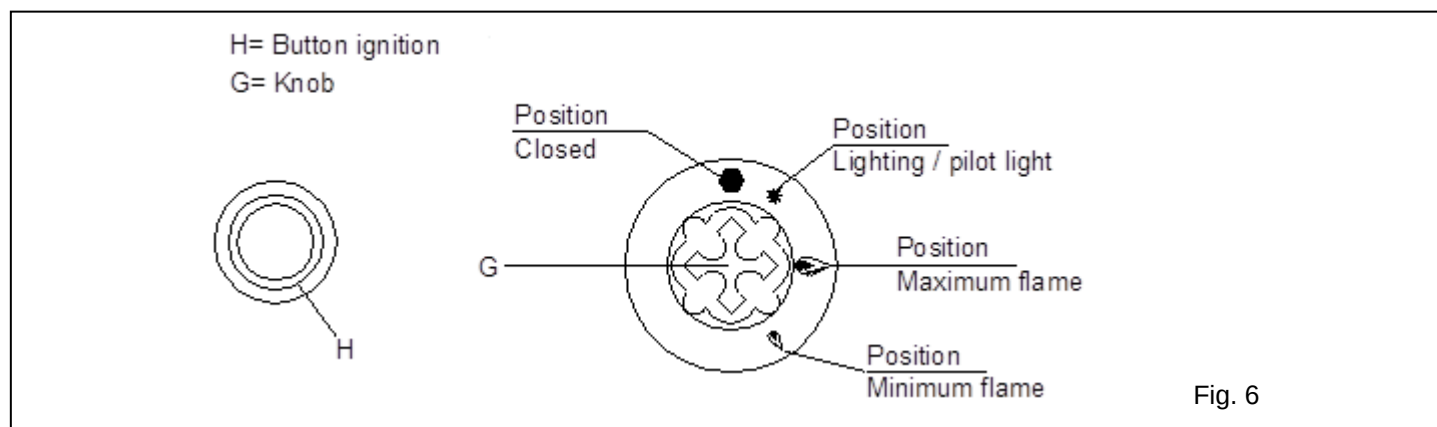

Fig. 6
6.1 Lighting the pilot flame (Fig. 6)